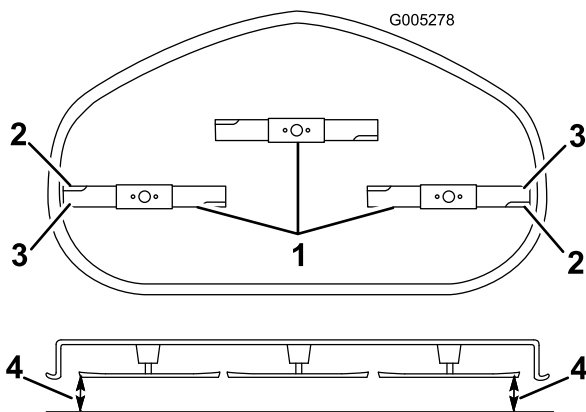

Figure 56
5. Carefully rotate the blade(s) side to side (Figure 56). Measure between the outside cutting edges and the flat surface (Figure 56). If both measurements are not within 3/16 inch (5 mm), an adjustment is required; continue with this procedure.